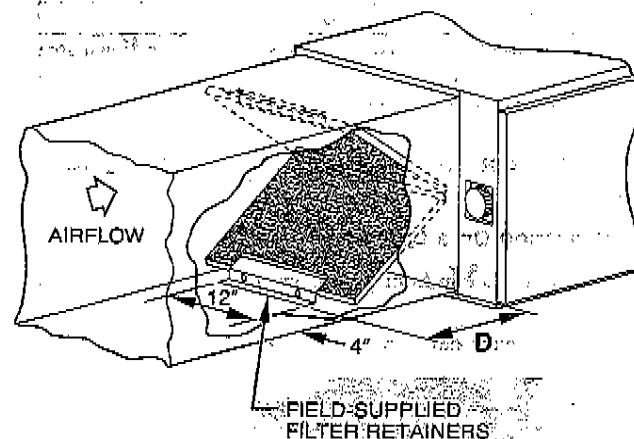
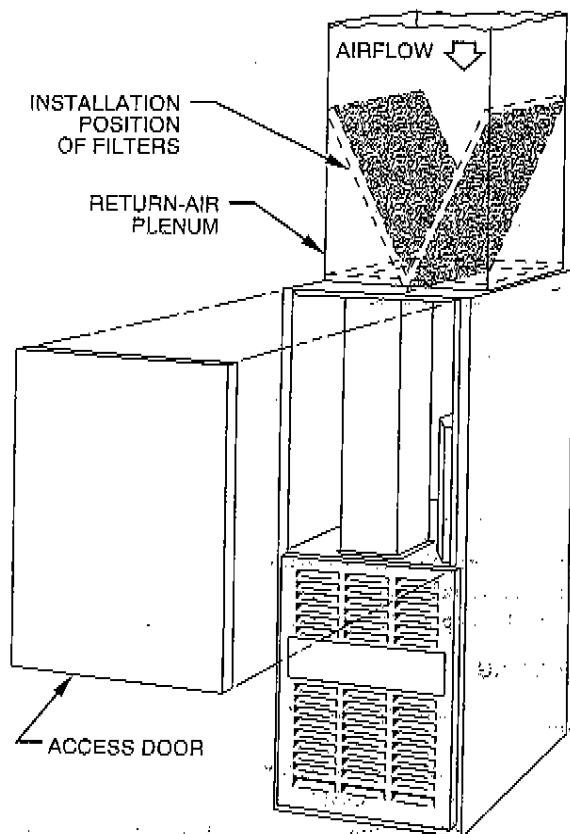

Fig. 8—Horizontal Filter Arrangement
Fig. 9—Downflow Filter Arrangement
4. Install field-supplied filter retainers as indicated in Fig. 8 and Table 4 before connecting return-air duct to furnace.
The 2 factory-supplied filters are shipped in the blower compartment. After the return-air duct has been connected to the furnace, install the filters in a V-formation inside the return-air plenum. See Fig. 8 and Table 4 for horizontal applications. Horizontal filter retainers must be field supplied. See Fig. 9 for downflow applications.